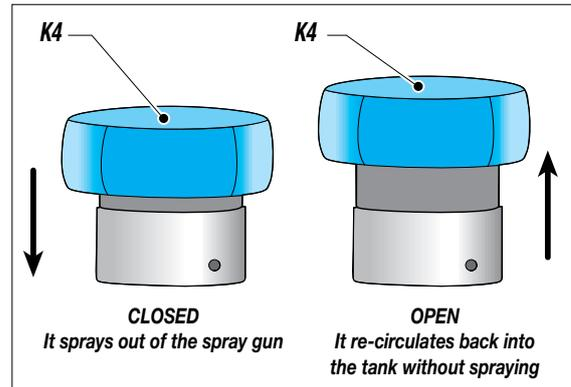

Fig. 4K
- Open the recirculating-safety valve (K4), as shown in Fig. 4K